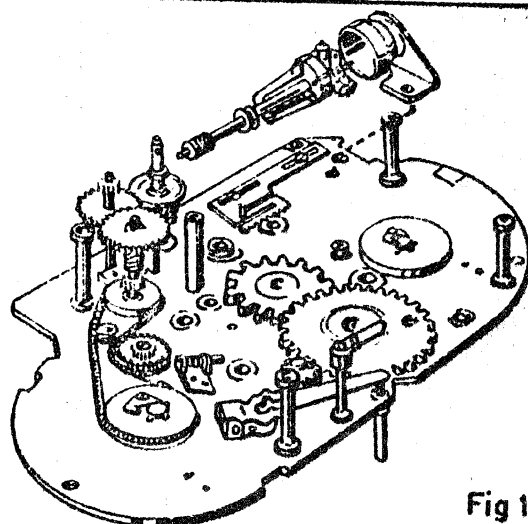

Fig 1
- The upper working plate as per fig. 1, without speed governor.